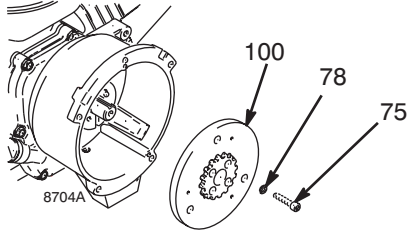

FIG. 9
9. FIG. 9. Use an impact wrench or wedge something between armature (100) and clutch housing to hold engine shaft during removal.
10. Remove four screws (75) and lockwashers (78).
11. Remove armature (100).